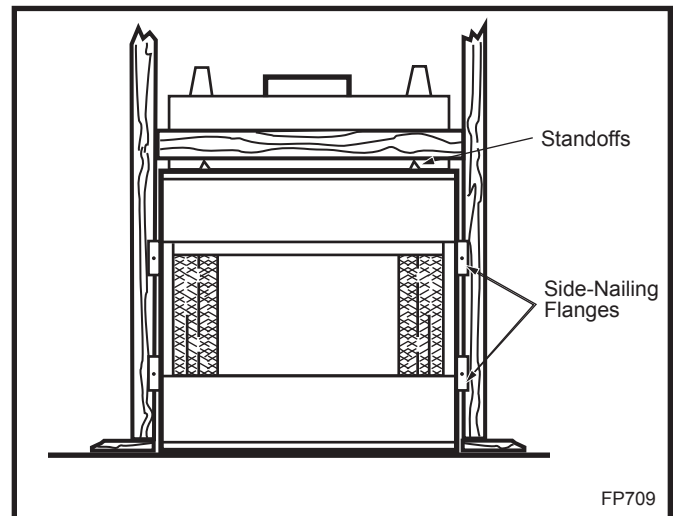

Fig. 14 Fasten fireplace in position.
Eight (8) nailing flanges are supplied with the fireplace (found on the fireplace hearth). To level the box and secure it firmly in place, remove the nailing flanges from the hearth and install at the sides of the fireplace as shown in Figure 14.